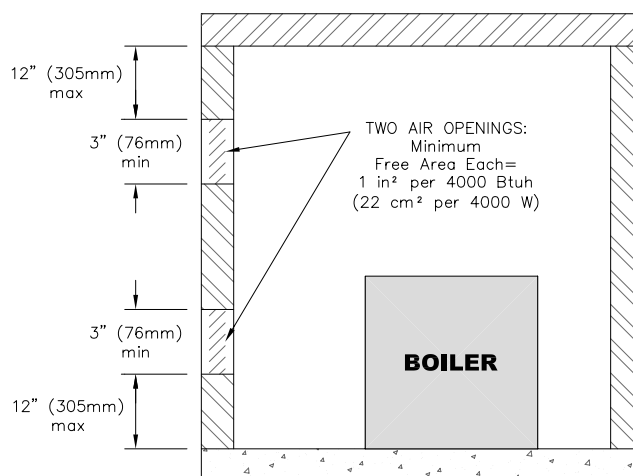
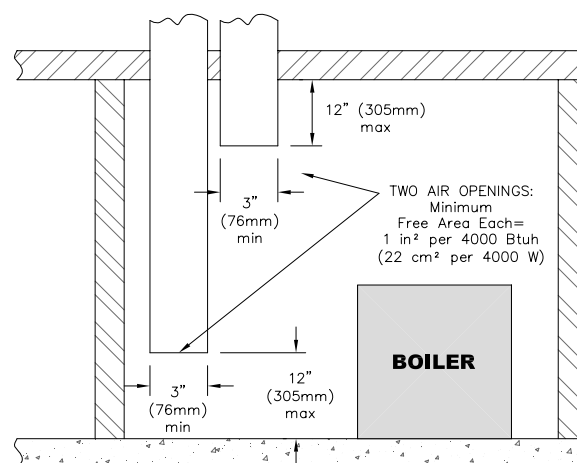

Figure 1.4: Air Openings – All Air Directly from Outdoors
Figure 1.5: Air Openings – All Air from Outdoors through Vertical Ducts
- i. Where communicating directly or through vertical ducts with the outdoors each opening shall have a minimum free area of 1 in² per 4000 Btu/hr (22 cm² per 4000 W) of total input rating for all equipment in the space. See Figure 1.4 for openings directly communicating with the outdoors or Figure 1.5 for openings connected by ducts to the outdoors.